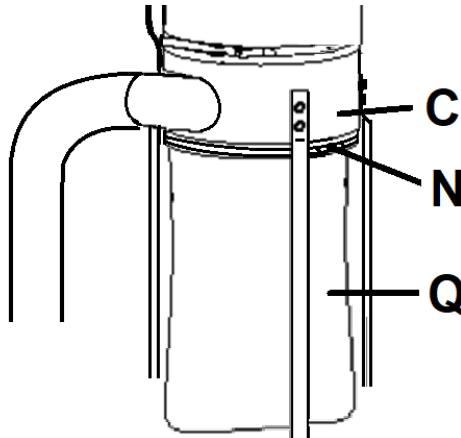

Fig 11
Place a collection bag (Q, Fig 11) over the housing (C).